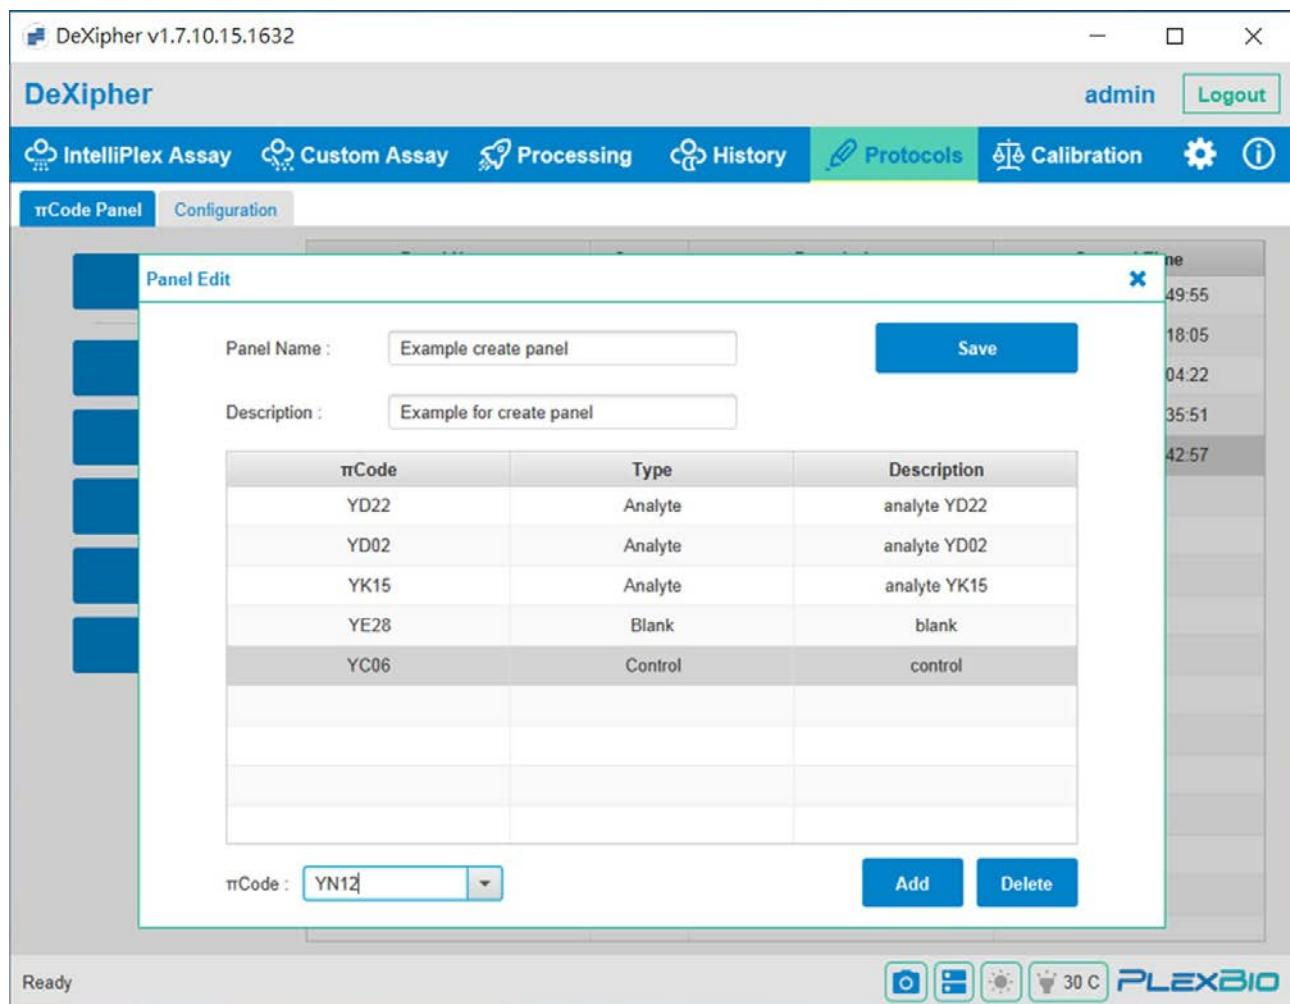

Fig. 38. Create πCode panel
Step 1. Enter a unique “Panel Name” (Fig. 38).